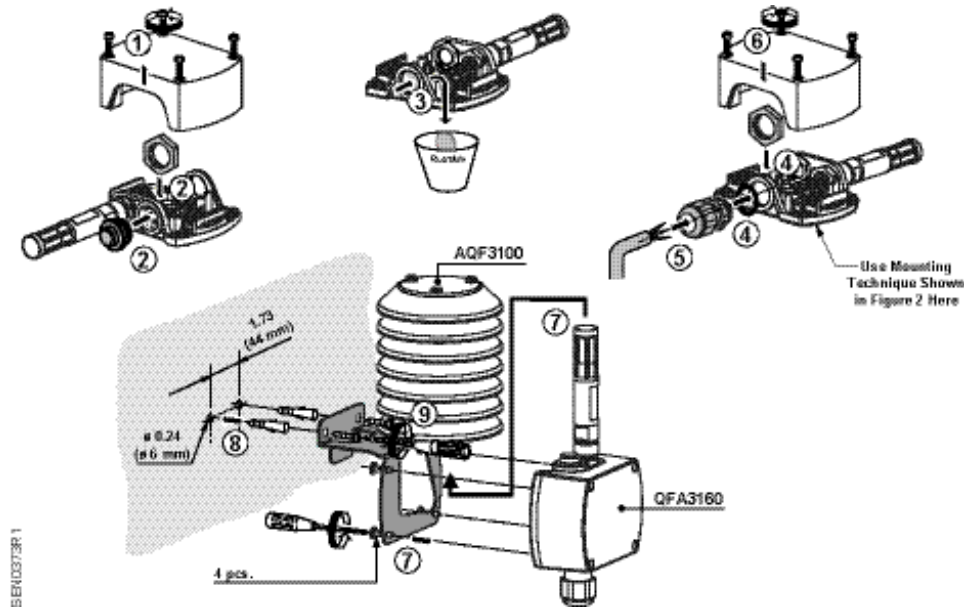

Figure 1. Rh/T Outdoor Air Sensor Installation.
1. Determine where the sensor is to be located and install the Sun Shield, AQF3100, as shown in Figure 1. The installation surface determines which mounting components are to be used.
NOTE: The shield must be mounted vertically as shown in Figure 1.
2. Remove sensor cover and install plug in knockout next to sensing probe. See Figure 1 (2).
- Install the sensor onto the Shield as shown. See Figure 1 (7).